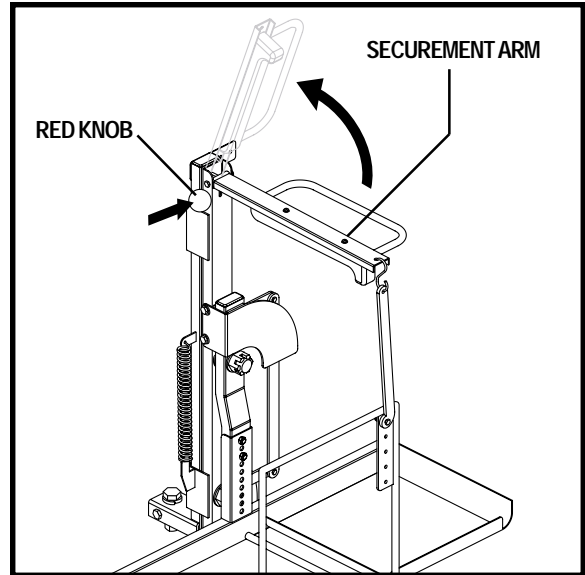

Figure 3. Securement Arm Position
6. Push in the red knob located on the side of the carrier frame and raise the securement arm to a vertical position. See figure 3.